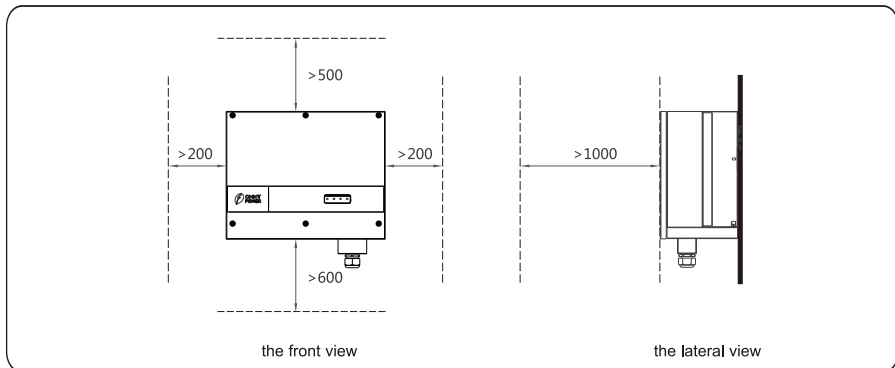

Figure 4.3 Installation space requirements (unit: mm)
- Reserve enough clearance around the inverter to ensure sufficient space for installation and heat dissipation, as shown in Figure 4.3.